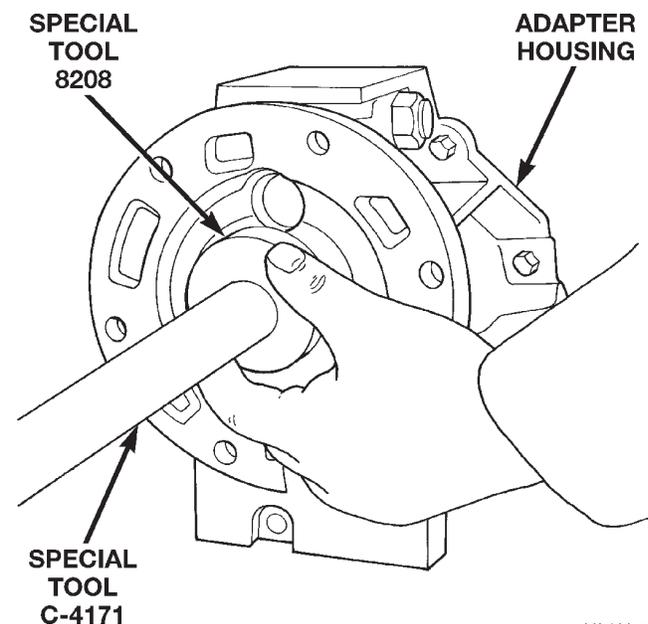

Fig. 15 Install Adapter Housing Seal 80b099c5
- (1) Clean seal bore of adapter housing of any residual sealer material from original seal.
- (2) Using Tool Handle C-4171 and Seal Installer 8208, install new seal so that the seal is located 0 ± 0.2 mm (0 ± 0.008 in.) to the seal bore face of adapter housing (Fig. 15).